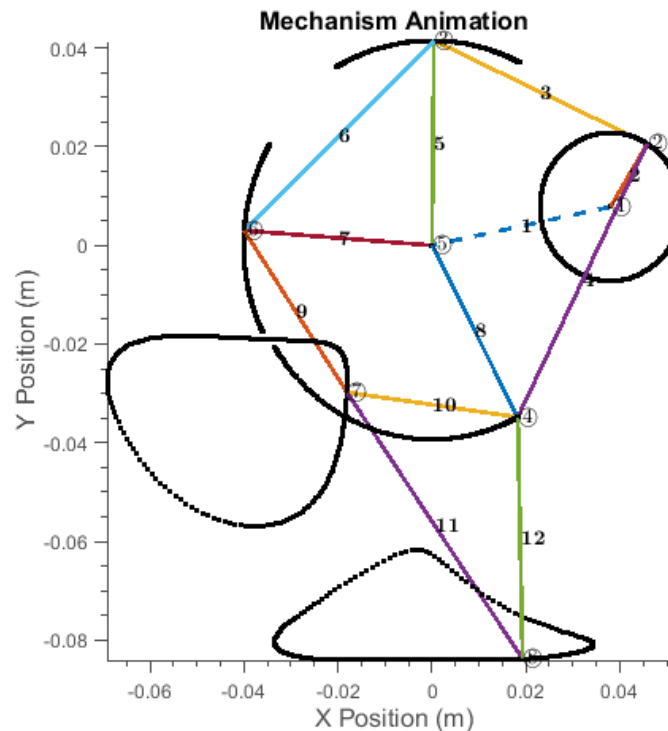

Figure 5. Plot of Jansen's linkage at one instant
- a. Include a picture of the simulation after it has finished tracing at least one complete path for the foot. See an example plot for the Jansen mechanism below (Figure 5)